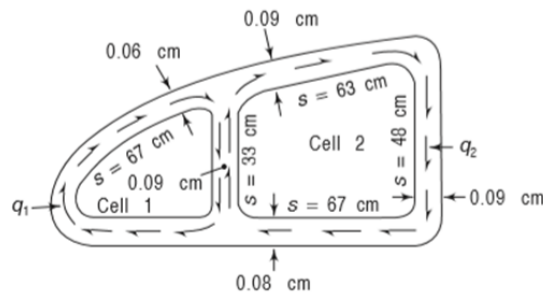

Figure 6
- (b) For Figure 6 shown below a two cell tubular section as formed by a conventional air foil shape, and having one interior web. An external torque of 1000 Nm is acting in a clockwise direction. Determine the internal shear flow distribution. The cell area is as follows: [7M]